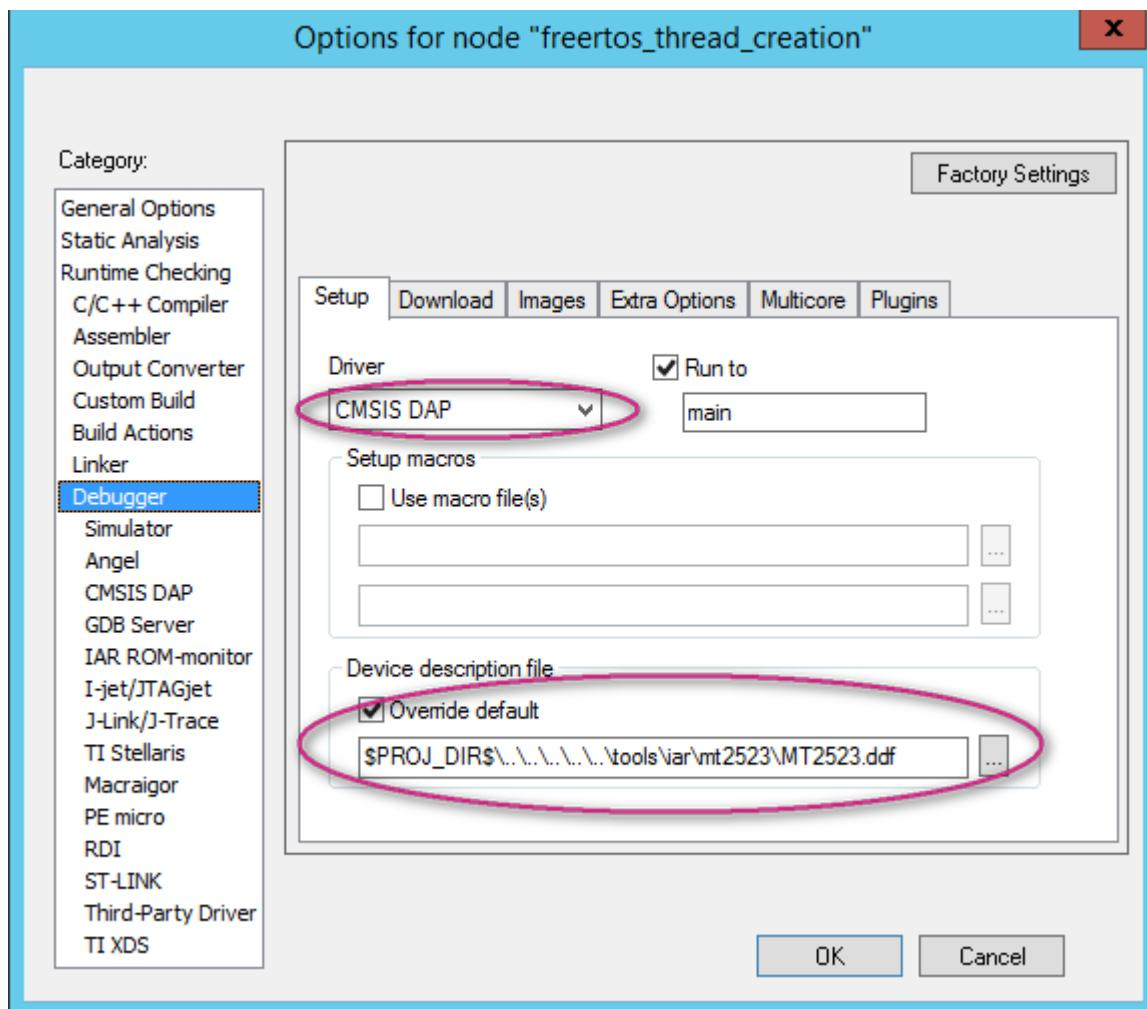

Figure 68. Select debug driver and ddf file
- a) Set **Driver** to **CMSIS-DAP** debugger (see Figure 68).